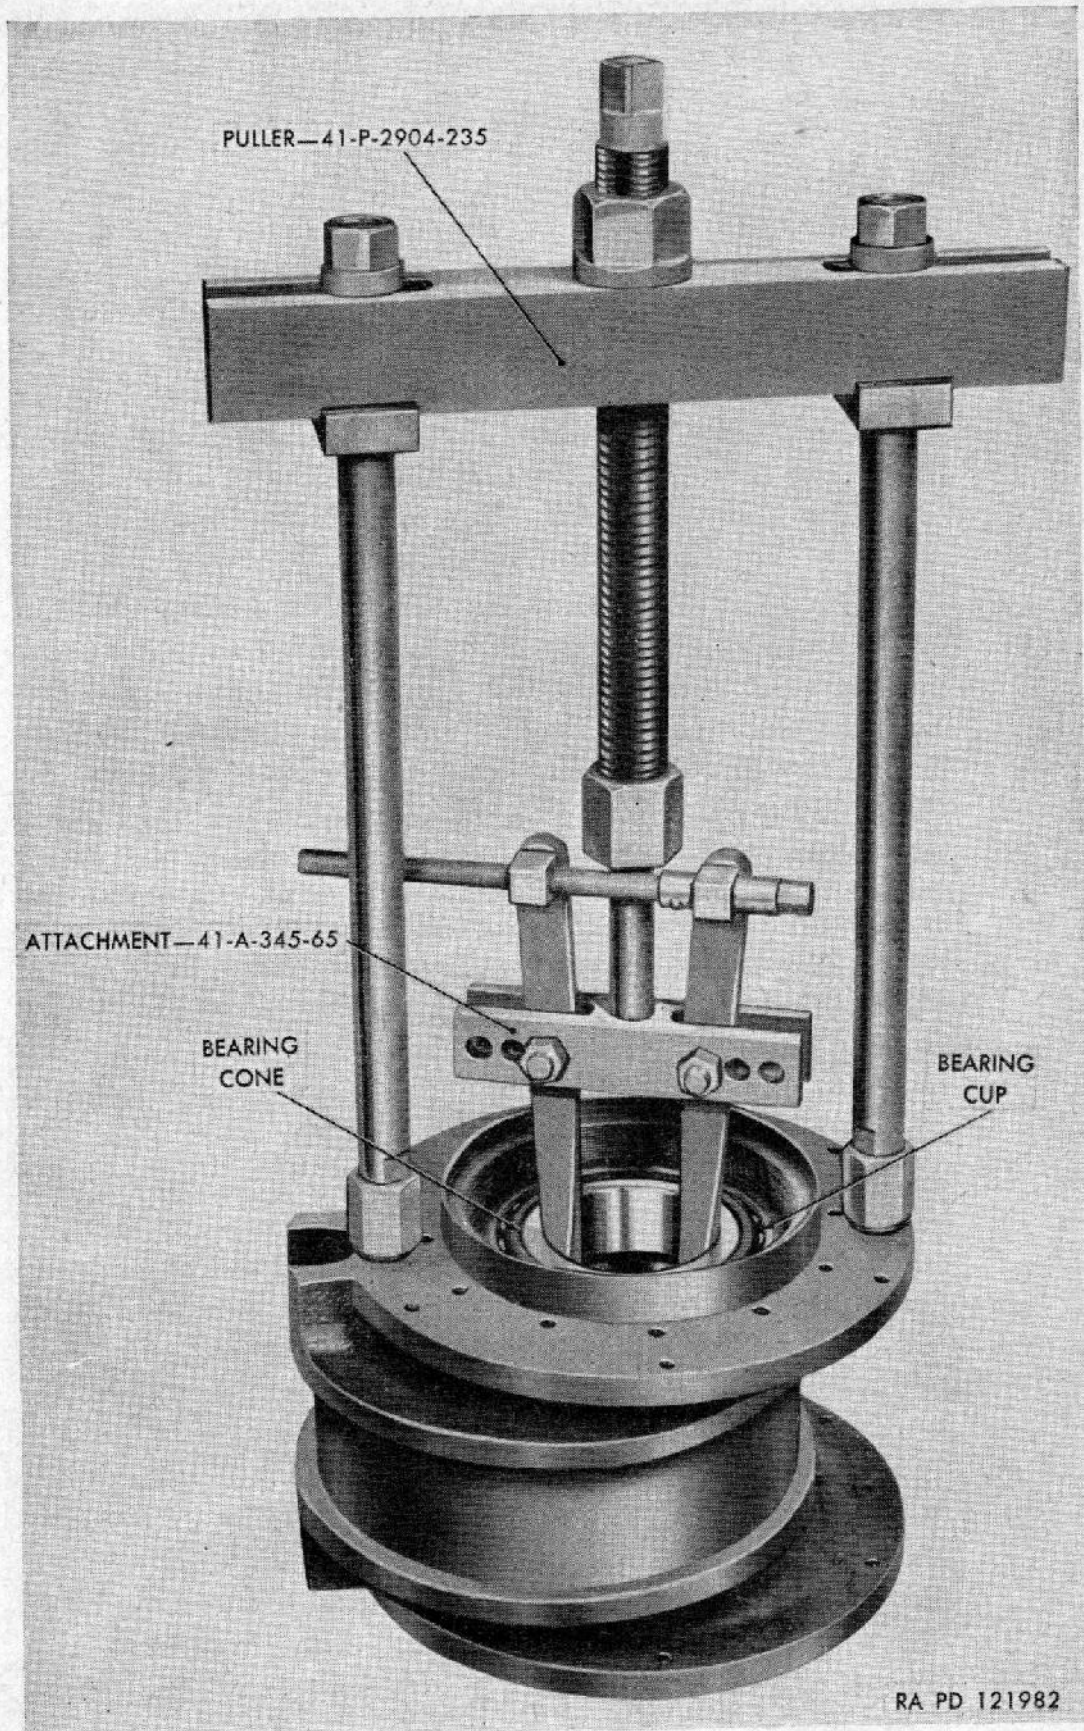
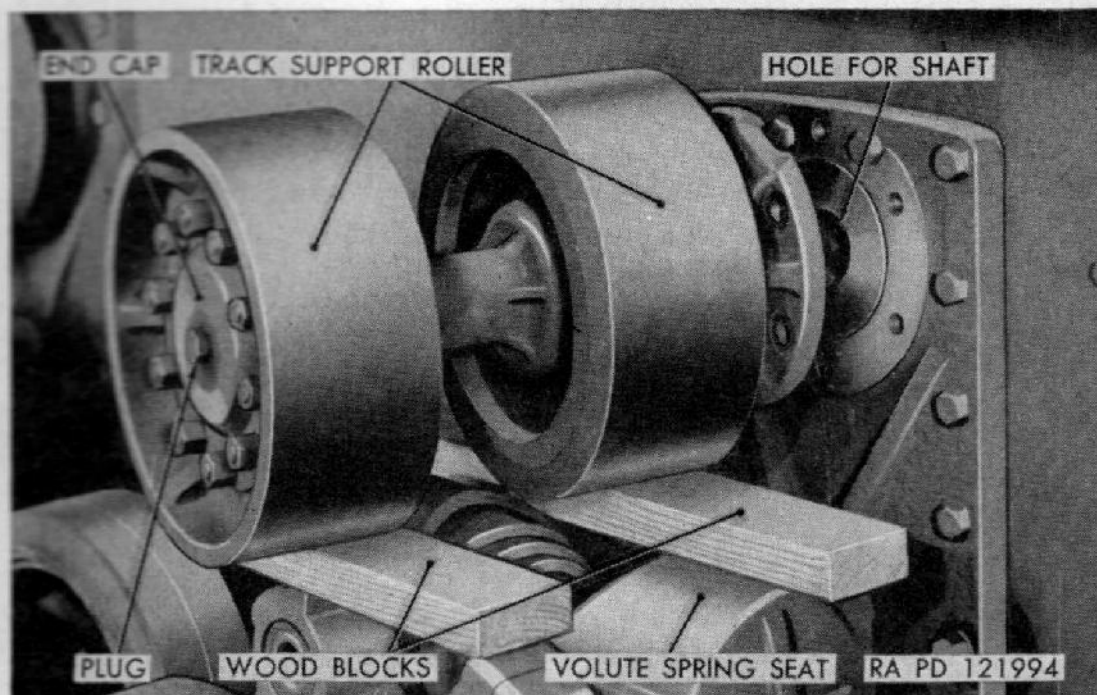
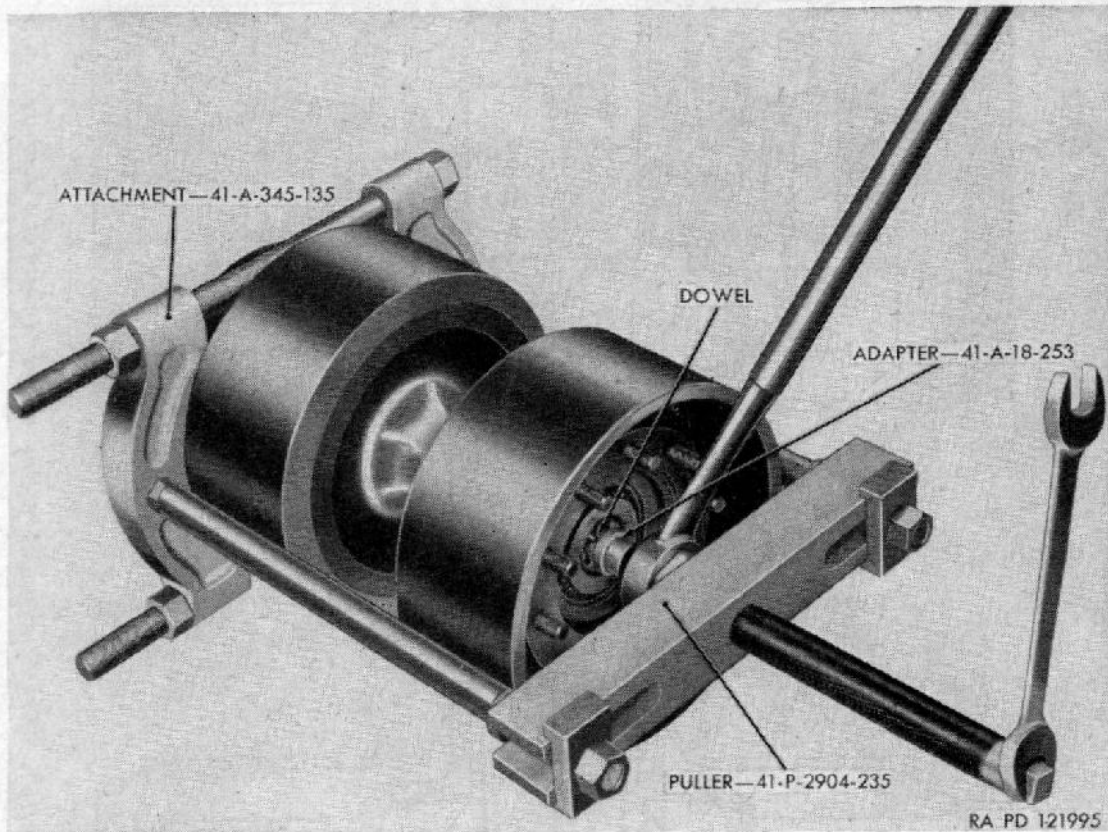
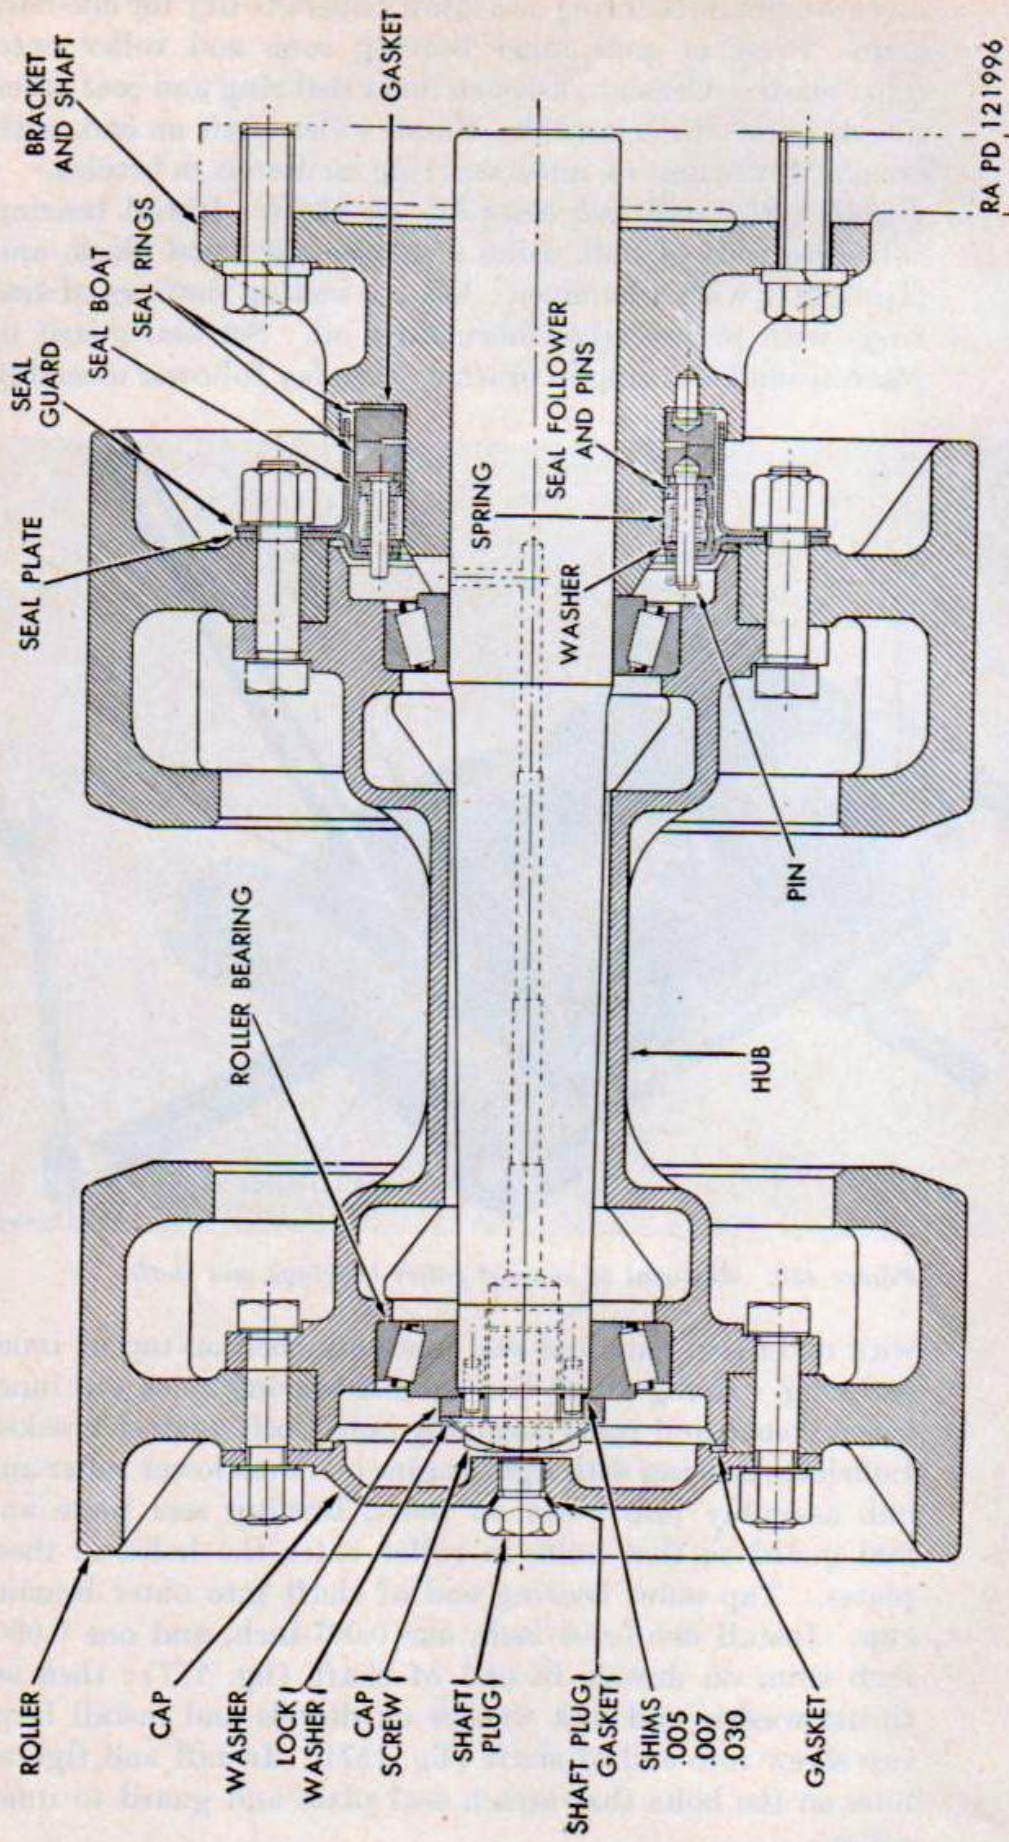

Figure 145. Removal of bearing cup.
Figure 155. Track support roller removed.
Figure 156. Removal of support roller bearings and shaft.
Figure 157. Track support roller assembly—cross section.
when shaft is removed. Install bearing cup puller attachment 41-A-345-65 with threaded adapter and puller 41-P-2904-235 with 18-inch legs, as shown in figure 145, and turn nut onto forcing screw to pull the second bearing and cup from the hub. Press or pull bearing that remained on the shaft from the shaft.
a. Removal. Loosen track as much as possible (par. 204b). Position a jack on one of the suspension wheels close to the support roller to be removed. Raise track until the track guides clear the support roller. Position two 2- x 10-inch wood blocks across the suspension volute spring seats as shown in figure 155. Remove six cap screws attaching the support rollers to bracket on hull. Pry the roller outward until inner end of the shaft is free of the bracket (fig. 155) and remove roller from the tractor.
b. Installation. Insert inner end of shaft into hole in the bracket (fig. 155). Turn the attaching flange so the notches are over the two top screws in the hull bracket; then install the six attaching cap screws with lock washers and tighten them securely. Lower the track onto the support roller and remove the jack and wood blocks. Adjust track tension (par. 204b).
- (1) *Remove support roller.* Refer to paragraph 209a.
- (2) *Remove roller and hub assembly from shaft.* Remove the plug from end cap (fig. 155) and drain oil from the support roller. Remove 10 nuts from end cap bolts (fig. 155) and remove cap and gasket. Straighten the lock washer and remove cap screws, lock washer, thrust washer, and shims from end of the shaft (fig. 157). Remove nuts from the bolts that attach the seal guard and inner roller to the inner hub flange. Mount bearing puller attachment 41-A-345-135 and puller 41-P-2904-235, with 24-inch legs, as shown in figure 156, with step plate adapter 41-A-18-253 between the forcing screw and end of shaft. Turn forcing screw to force the rollers off the shaft. Use a long bar to hold roller from turning. The outer bearing will be pulled off the shaft; the inner bearing cone and roller assembly will remain on the shaft.
- (3) *Remove inner bearing from shaft.* Using the same puller arrangement as in (2) above and substituting 18-inch legs for the 24-inch legs, pull the inner bearing from shaft. Slide seal plate and follower assembly, seal guard, and seal rings, off the bracket and shaft.
- (4) *Remove bearing cups from hub.* Mount the bearing cup puller attachment 41-A-345-65 with threaded adapter and puller 41-P-2904-235 used in (3) above as shown in figure 145, and pull bearing cups from outer ends of hub. Roller may be pulled or pressed off hub.
with outer seal ring and seal plate attached on top of inner seal ring. Using a soft bar against bearing cone, tap inner bearing cone and roller assembly onto shaft against bracket. Lubricate bearing with light engine oil; then lower roller and hub assembly into place on shaft, turning seal plate and seal guard so that bolts in roller enter the holes in these plates. Tap outer bearing end of shaft into outer bearing cup. Install one 0.005-inch, one 0.007-inch, and one 0.030-inch shim on dowels in end of shaft (fig. 157); then set thrust washer and lock washer on dowels and install large cap screw into end of shaft (fig. 157). Install and tighten nuts on the bolts that attach seal plate and guard to inner roller.
- (3) *Adjust bearings.* With large cap screw in end of the shaft securely tightened, there should be no end play in shaft and bearings; a slight preload should be felt on bearings when roller is turned by hand. Adjust bearings by adding or removing shims at end of shaft under the thrust washer (fig. 157). After bearings are properly adjusted and cap screw tightened, bend lock washer over one side of the nut to secure it from loosening and install end cap and gasket (fig. 155).
- (4) *Install support roller.* Refer to paragraph 209b. Fill wheel with lubricant specified in lubrication order (par. 70). Install shaft plug with a new gasket (fig. 157). Adjust track as explained in paragraph 204b.
b. Installation. Lift box onto tractor with hoist and chains as shown in figure 155. Set box on hull so that the groove in bottom of box on the right-hand side contacts the rail on top of the right-hand side of hull. Install a bolt with lock washers in each corner of the box to attach the ammunition box to hull. Connect flood light switch wire at acorn fitting at rear of tractor.